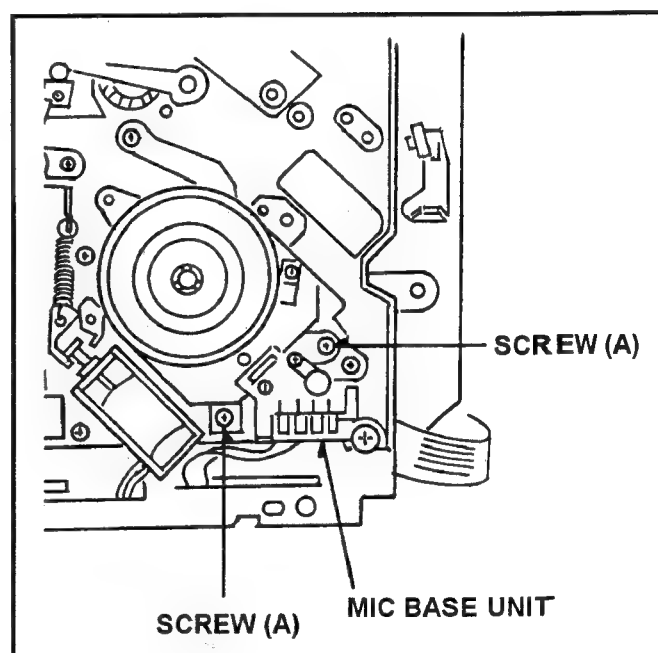

Fig. 8-10-1 Removal of MIC Base Unit
4. Unscrew the **2 screws (A)** and remove the MIC Base Unit as shown in Figure 8-10-1.